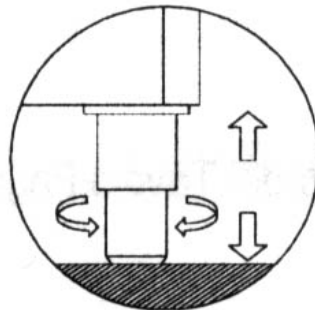

Fig.1
- position the appliance with the help of a spirit level. Adjust the levelling feet on the metal base of the unit if necessary (in the models fitted with adjustable feet) (Fig.1)